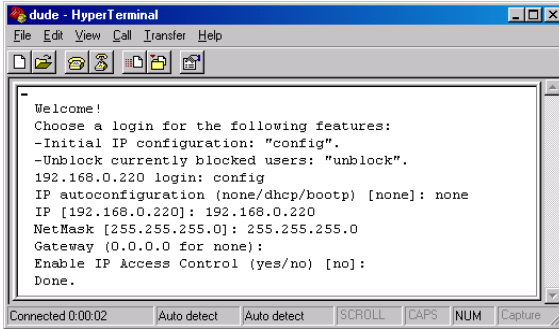

Figure 6 The Hyperterminal
5. Click OK. The Hyperterminal appears. See Figure 6.